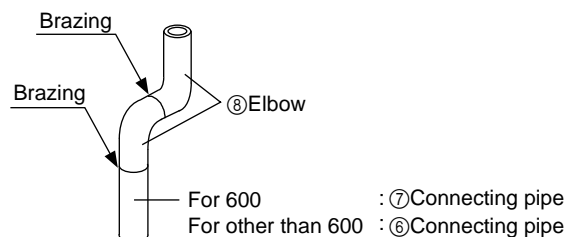

Fig. 4
- (1) Remove the copper cap and rubber packing attached to the piping and flange of the distributor (gas) (optional).
- (2) Assemble outside the unit with the elbow (⑧), connecting pipe (⑦ for 600 type), or connecting pipe (⑥ for types other than 600) in the specified shape and braze. (see Fig. 4.)